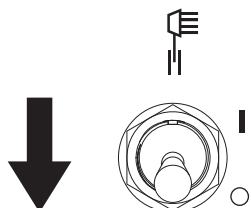

Figure 3-6. Lights OFF (O)
4. See Figure 3-6. Switch lights to OFF (O).